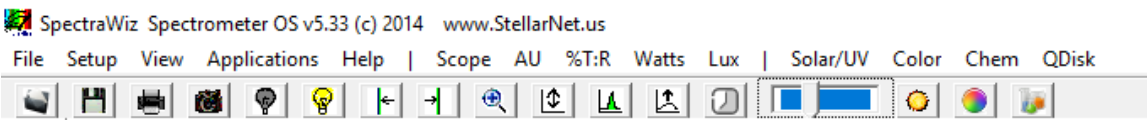
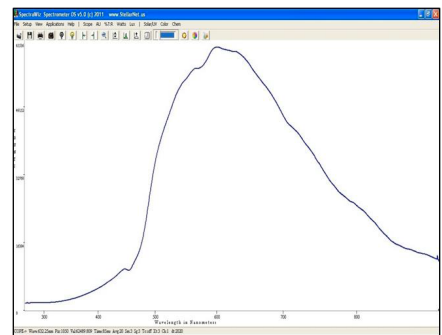

Figure 1 Memu Bar of SpectraWiz Software
Figure 2 Optimum Integration Time
6. Start in "**Scope**" mode (Figure 1). With the spectrometer running (The 4th icon from the left should be a camera, if it is a ► click it to start the spectrometer scanning), with the spectrometer observing the light source you should view a spectrum (Figure 2). Go to **Setup** in the menu and set the following configuration:
- d. Temperature Compensation = 1 (ON)
2. Set up the spectrometer, cell holder, and light source as shown in figure 2 and allow to warm up for 10 minutes.